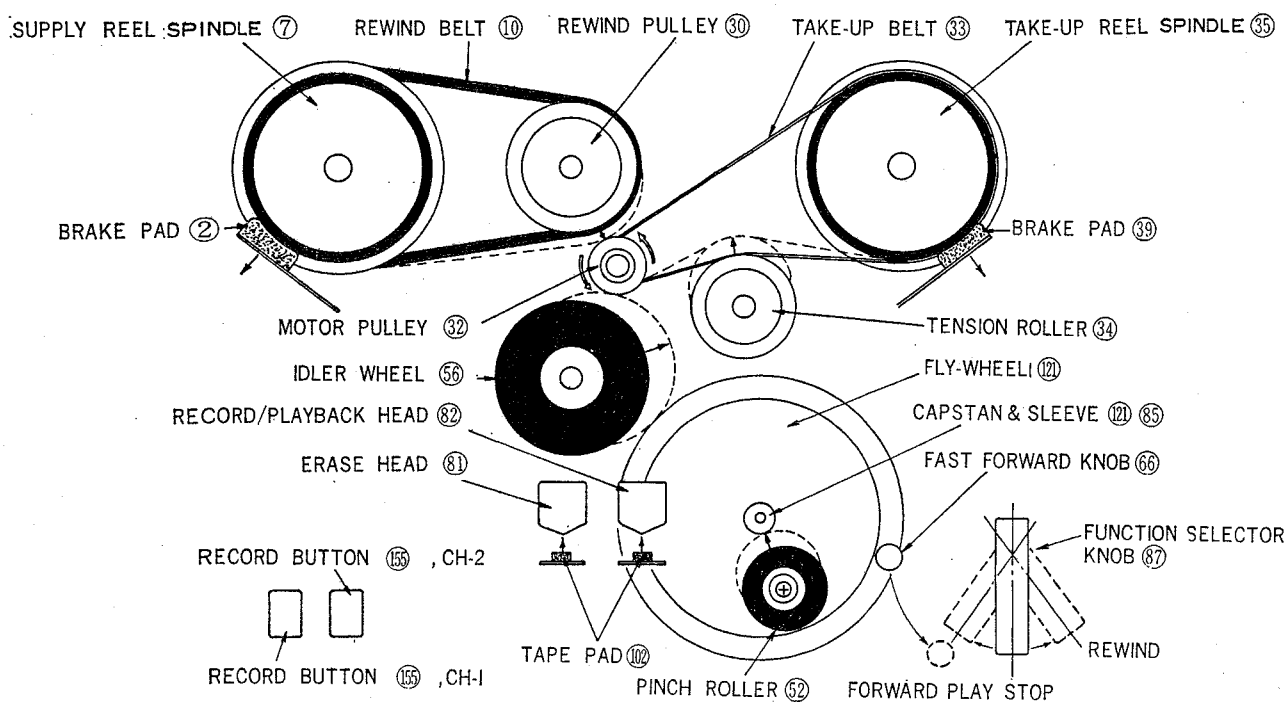

Figure 2 Tape Transport Mechanism
The function selector is used to actuate or stop the movement of the tape and select the direction of its movement. The five operating modes are as follows. Refer to Figure 2 and Mechanism Exploded View.
### (1) FORWARD PLAY (Refer to Figure 2)
### (2) RECORD (Refer to Figure 2)
### (3) STOP (Refer to Figure 2)
### (4) REWIND (Refer to Figure 2)
### (5) FAST FORWARD (Refer to Figure 2)